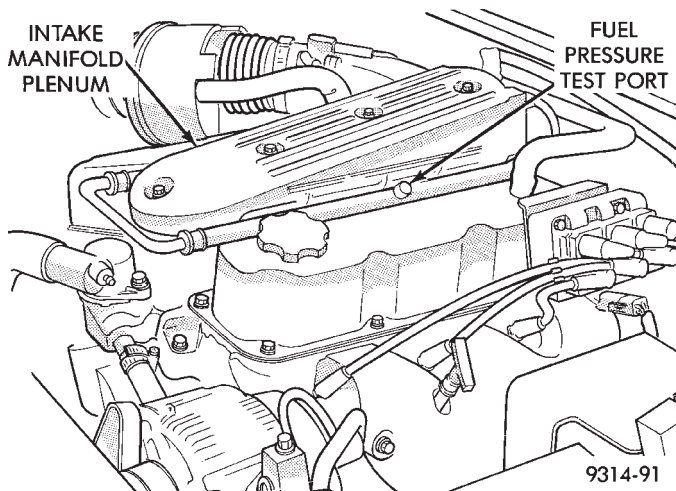
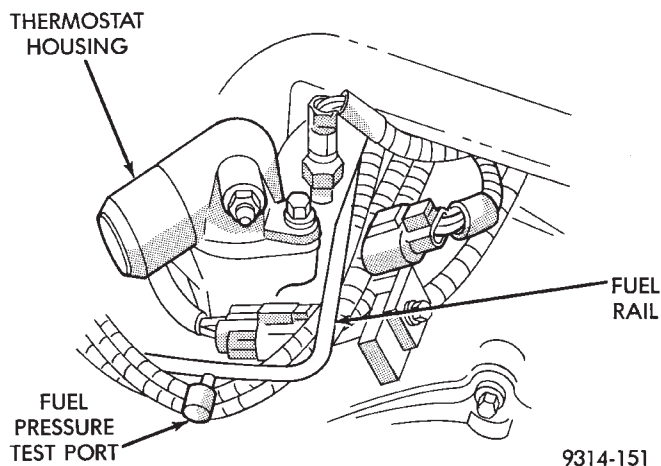

Fig. 1 Fuel Pressure Test Port—3.3L Engine
Fig. 2 Fuel Pressure Test Port—3.5L Engine
- (1) Disconnect negative cable from battery.
- (2) Remove fuel filler cap.
- (3) Remove the protective cap from the fuel pressure test port on the fuel rail (Fig. 1 or Fig. 2).